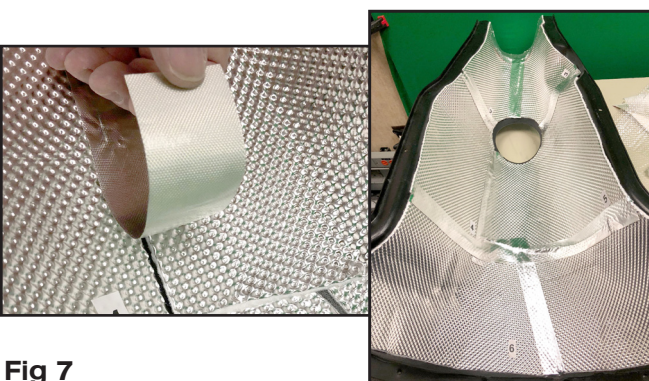

Fig 7
STEP 11. Take the supplied Cool Tape and cut to length to cover all the seams between each shield. **Fig 7**